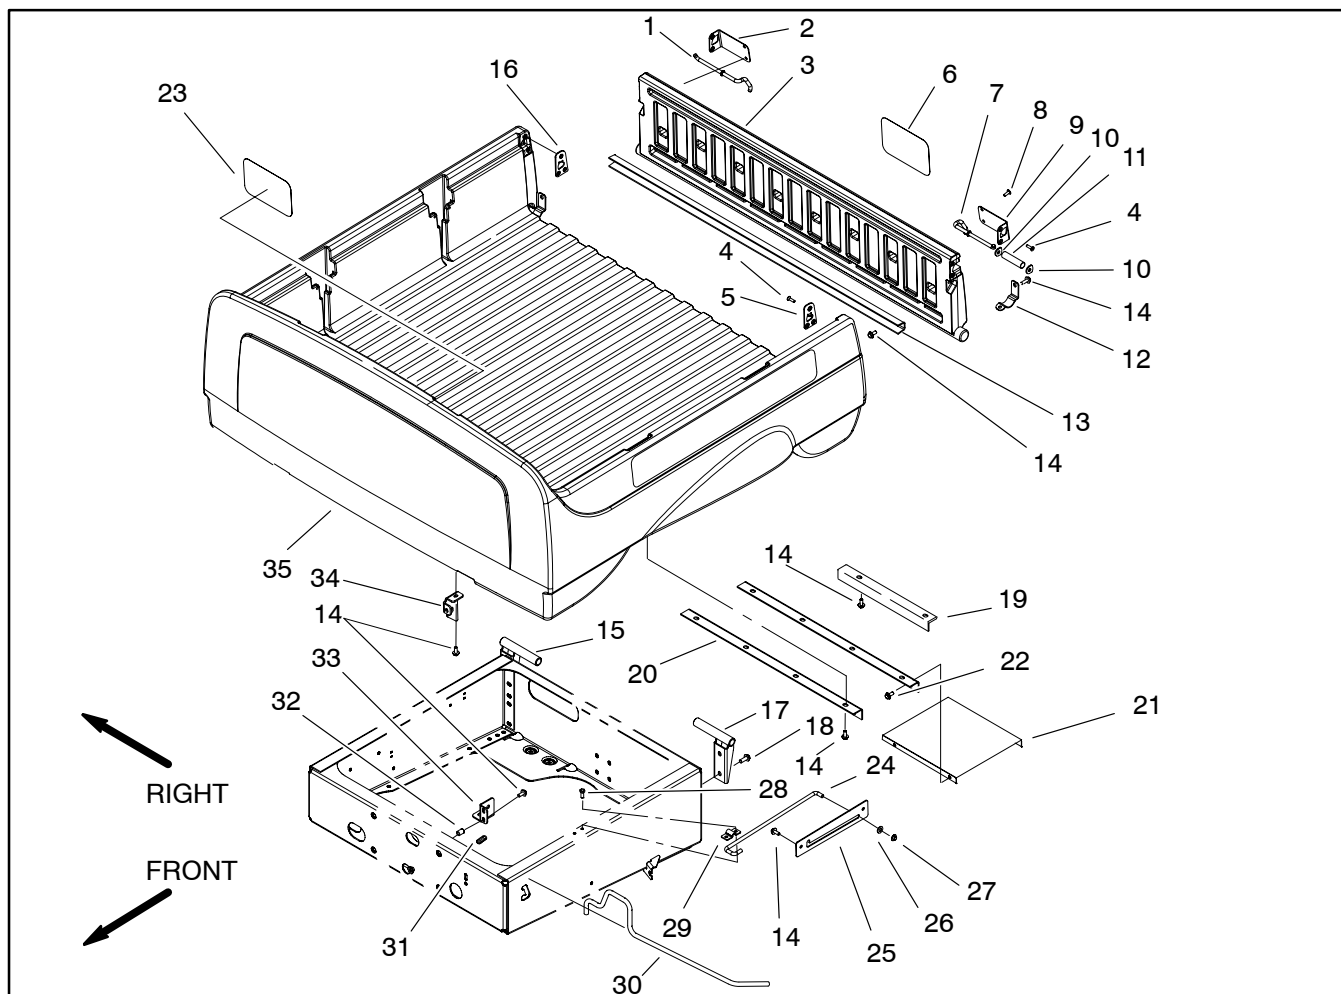

Figure 30
3. Release latch rod from the latch bracket. Remove cargo bed from the frame. Disassemble cargo bed as necessary using Figure 30 as a guide.
1. Reassemble cargo bed using Figure 30 as a guide.